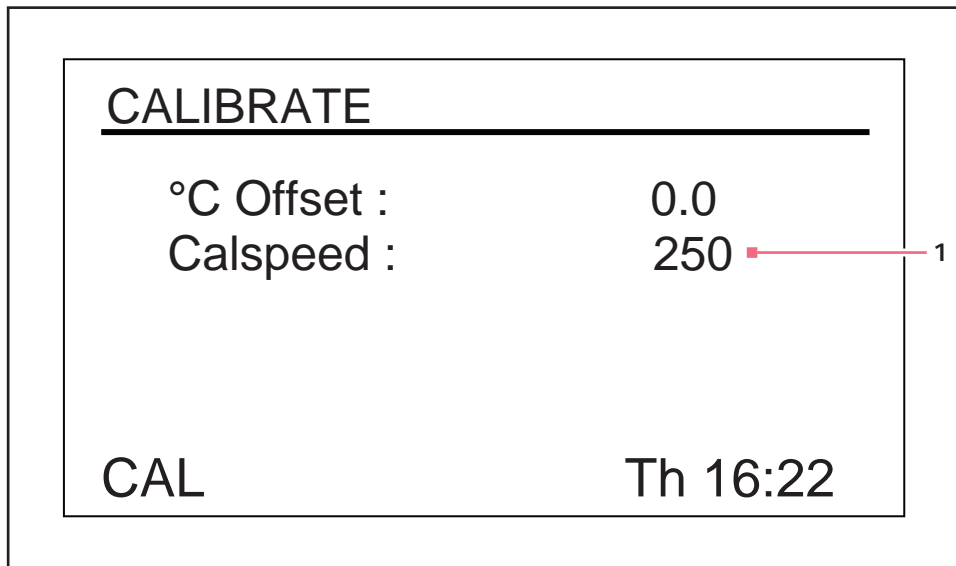

Fig. 9-15: Calibrate screen
- Use the control knob to enter the *CAL* screen (see Fig. 9-15 on p. 63).
The **Calspeed** function, which is set in the **CAL** screen (see Fig. 9-15 on p. 63), is used to calibrate the speed of the shaking mechanism. Calibrated at the factory, speed does not need to be recalibrated until a major operating component (e.g. drive belt) is changed.